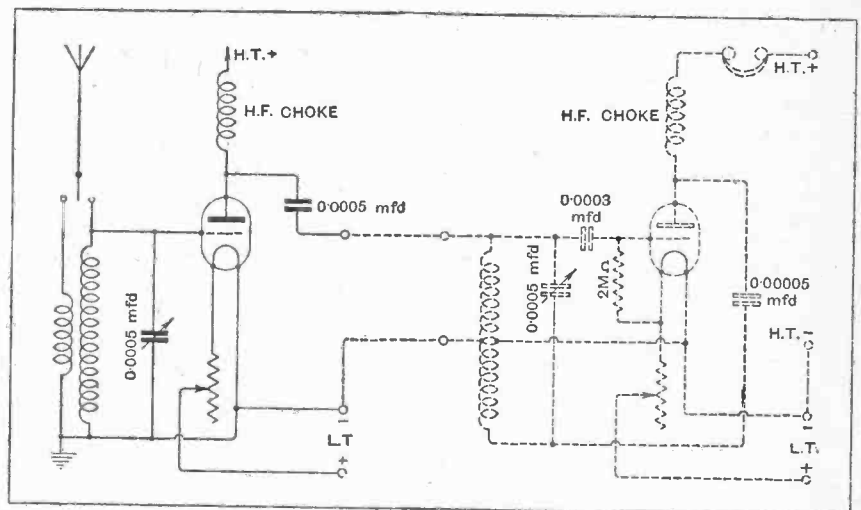
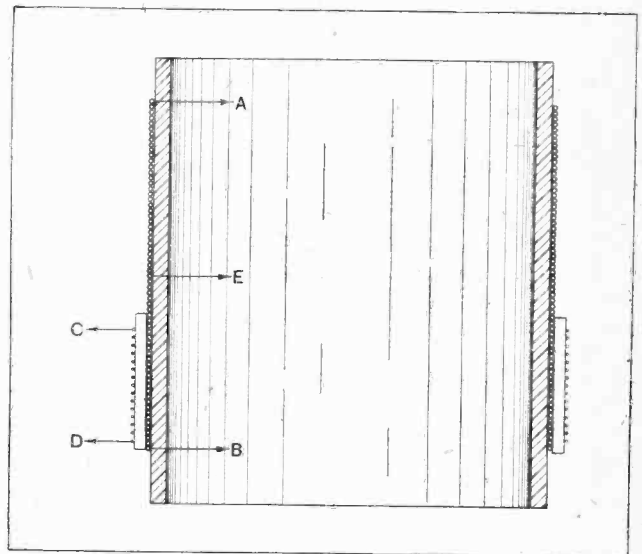

Fig. 1.—Adding an H.F. stage to the Universal Three.
Fig. 5.—Connections of the aerial grid transformer: the lettering corresponds to Figs. 1 and 9.
The method of adding an unneutralised stage of H.F. amplification is quite straightforward, and is illustrated in Fig. 1, where the dotted line portion of the diagram represents the first valve of the "universal receiver." It will be seen that the output of the H.F. amplifier connects to the A₂ and E terminals of the original receiver, the terminals P and A, and also the aerial coupling condenser not being shown, as they are not in use when the H.F. amplifier is added. It will be observed that the amplifier is of the conventional type, and provision is made for using either direct or "aperiodic" aerial coupling. It is most important that the H.F. choke in the plate circuit of the H.F. valve be of the highest possible efficiency, and a choke of a type specially designed for H.F. coupling rather than for Reinartz reaction effects, such as the Marconiphone choke, should be used, or, better still, a high-efficiency choke should be made in accordance with the constructional details given in the "Hints and Tips" section of this journal for February 24th.
The circuit used in the receiver is given in Fig. 1, and is by no means new, although its possibilities seem to have been somewhat neglected. The theoretical considerations involved have been discussed at some length in *The Wireless World*,¹ and the writer believes that a similar arrangement was described in an American contemporary about a year ago under the title of "The Old Dobbin"—presumably as a tribute to its reliability and "pulling" powers!
Fig. 1.—THE THEORETICAL CIRCUIT DIAGRAM. The lettering A—D corresponds with that in Figs. 5 and 9. $C_1=0.0005$ mfd.; $C_2=0.0003$ mfd.; $C_3=0.0002$ mfd.; $C_4=0.0005$ mfd.; $C_5=0.001$ mfd.; $C_6=1$ mfd.
D.S.C. wire. Taps should be taken at the 25th, 30th, 35th, and 45th turns from the grid end (marked A in Fig. 5; this diagram, considered in conjunction with